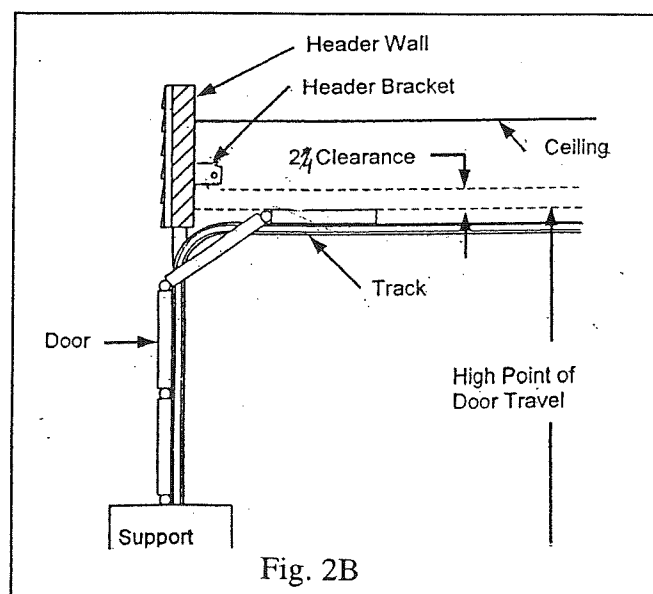

Fig. 2B
Step 2: The front mounting bracket has two holes that should be mounted to the front header 3" above the highest arc of the door, with lag bolts. See Fig. 2b. Suitable wood blocking or angle iron framework may be installed on the wall to provide suitable mounting for the front mounting bracket.